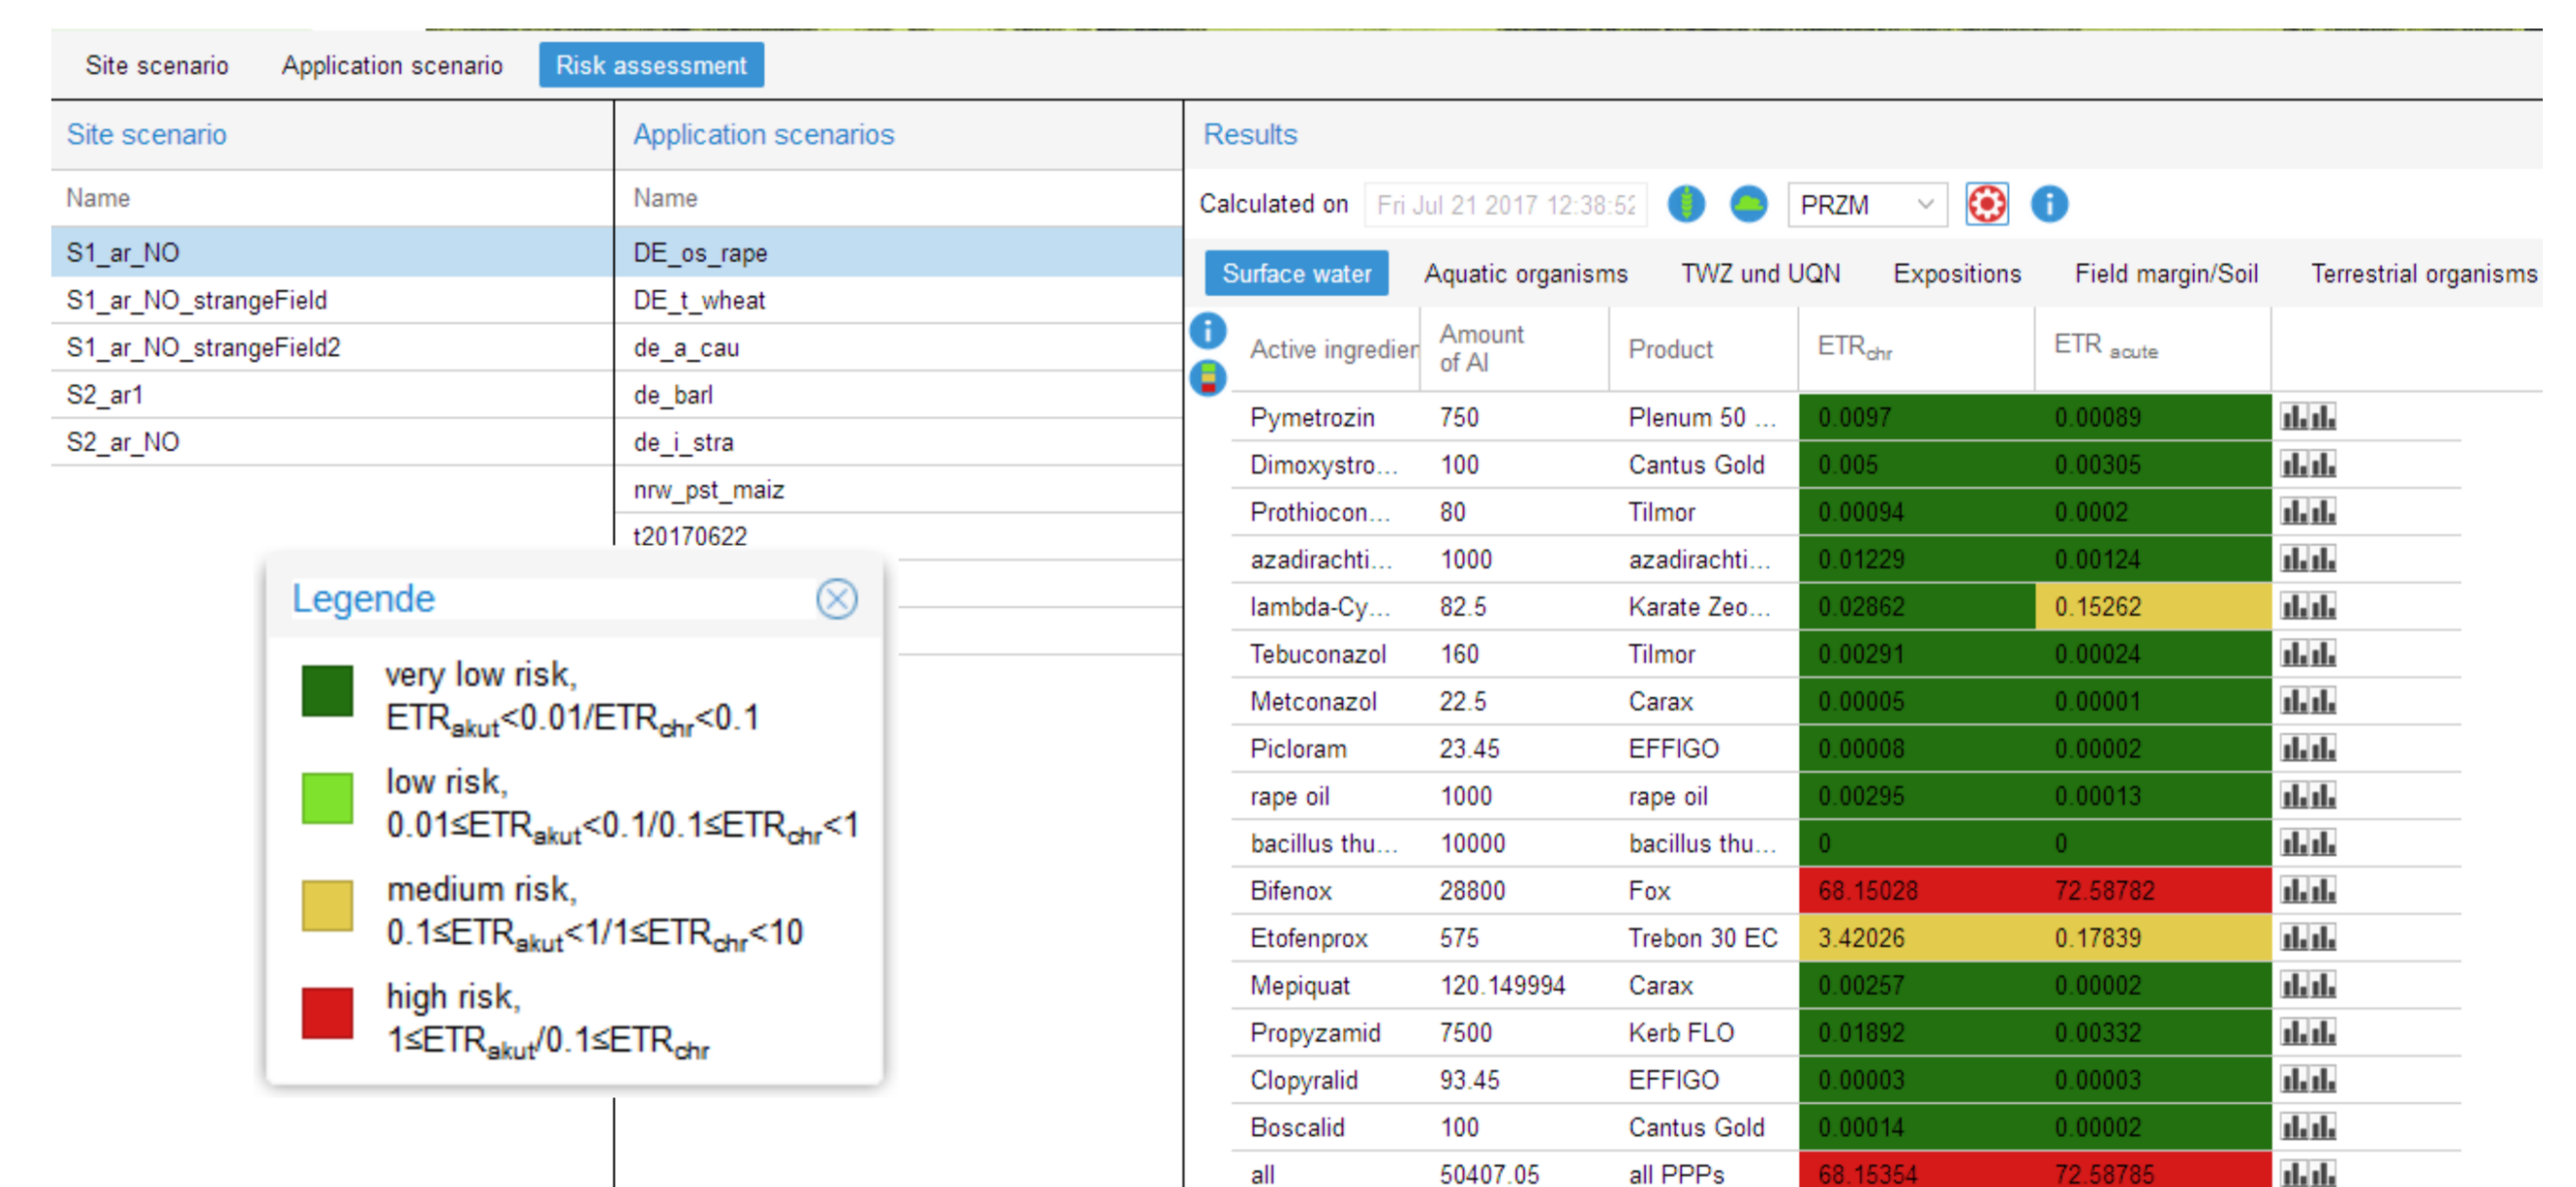

Fig. 3: Risk assessment interface: colour-coded ETR values, adjustments for crop parameters and mitigation measures
- simple presentation of risk indices in four ETR-categories (Fig. 3)